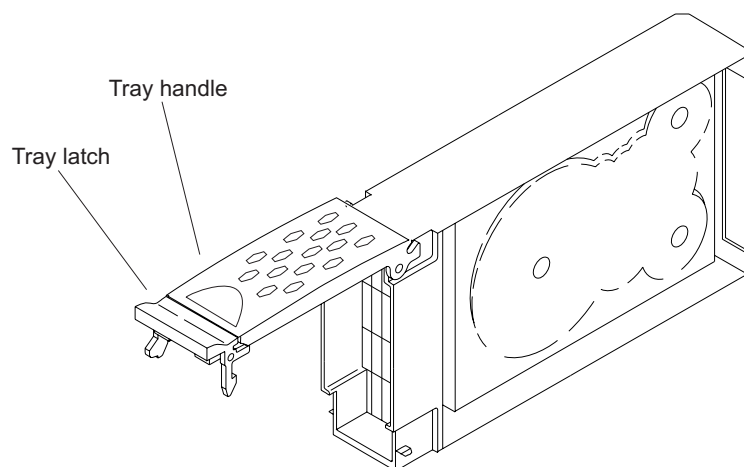

Figure 47. Drive CRU handle
- b. Pull the handle on the tray out so that it is in the open position, as shown in Figure 47 on page 80.
- a. Release the latch on the drive CRU by pinching together the blue line on the tray latch and the finger hole on the tray handle, as shown by the arrow in Figure 47 on page 80.